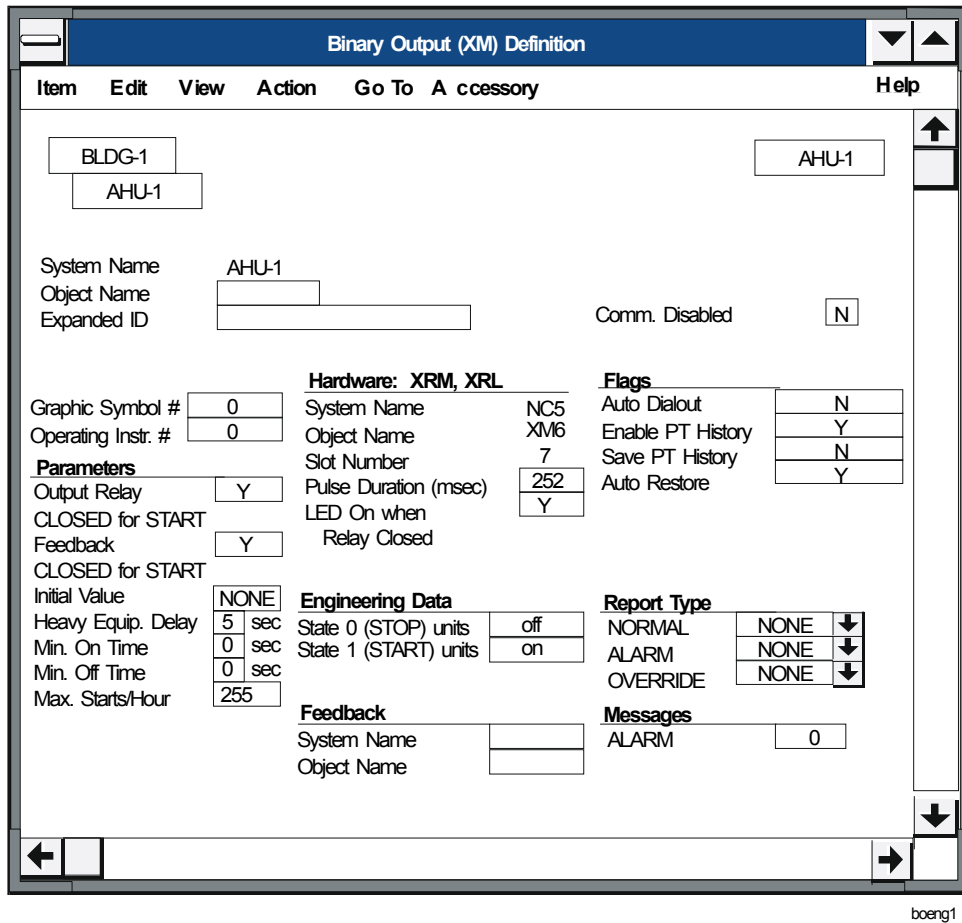

Figure 1: BO Definition Window Displaying Default Settings
- Click OK. The BO Object Definition window appears (as shown in Figure 1).